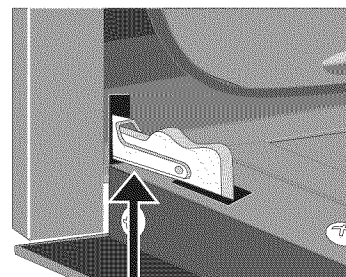
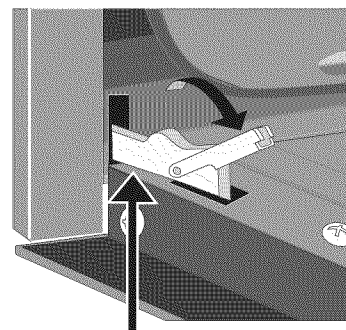

Figure 41: Door hinge locks
Figure 42: Hinge: unlocked position
2. Pull up the lock located on each hinge support toward front of the oven. You may have to apply a little upward pressure on the lock to pull it up (Figure 41 and Figure 42).
4. Push the door hinge locks up toward and into the oven frame on both left and right oven door hinges to the locked position (Figure 41).